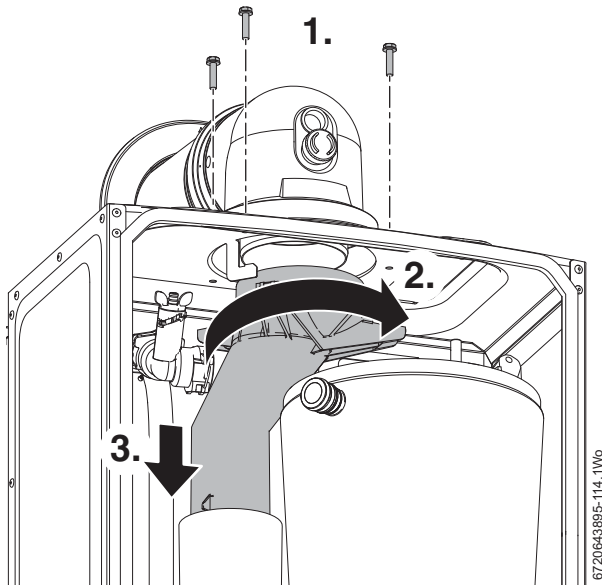

Fig. 85 Upper exhaust assembly
1. Refer to figure 85 and remove the three screws securing the turret to the top of the appliance.